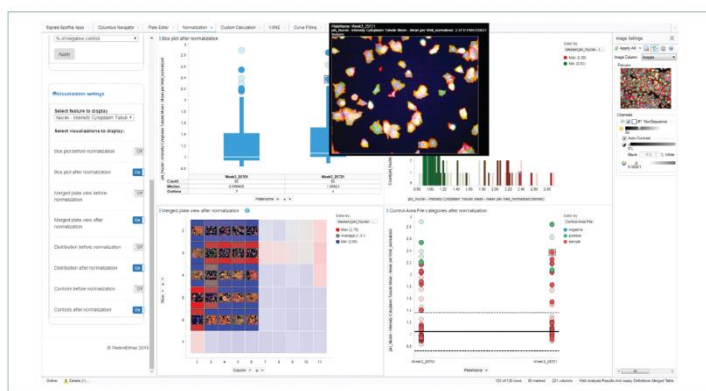

Figure 2. HCS SOM Map – Machine learning to group samples based on their phenotypic profile.
- High Content Screening (HCS) (Figure 2)